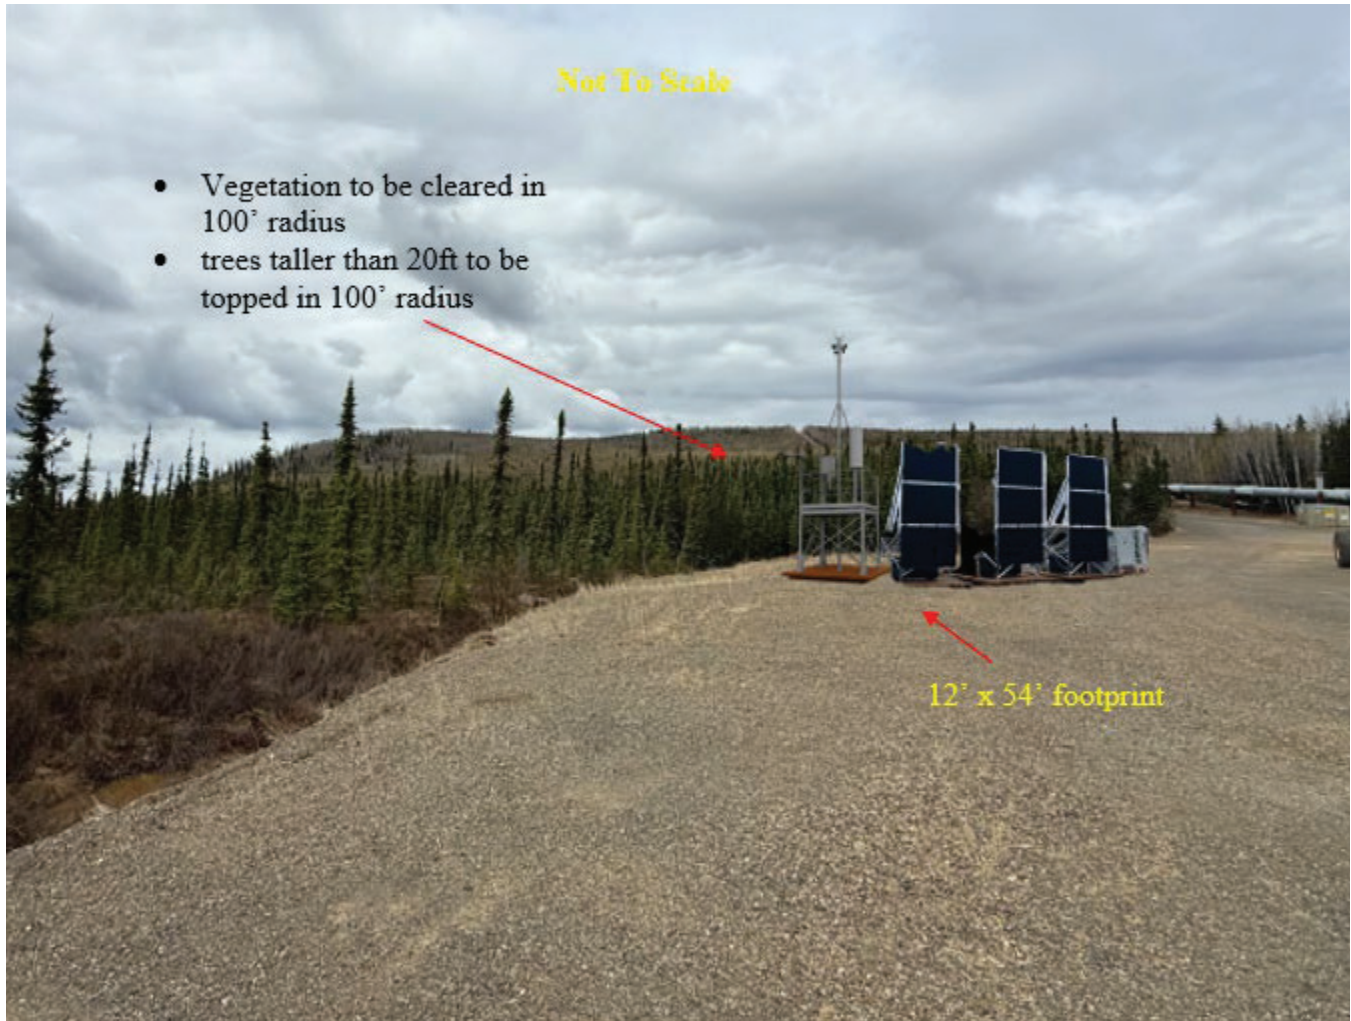

Figure 4. Overall Installation Concept
- 2) The final location will be determined by the installation team and may be +/-5 feet from this reference as views and supportability indicate (see Figure 4).